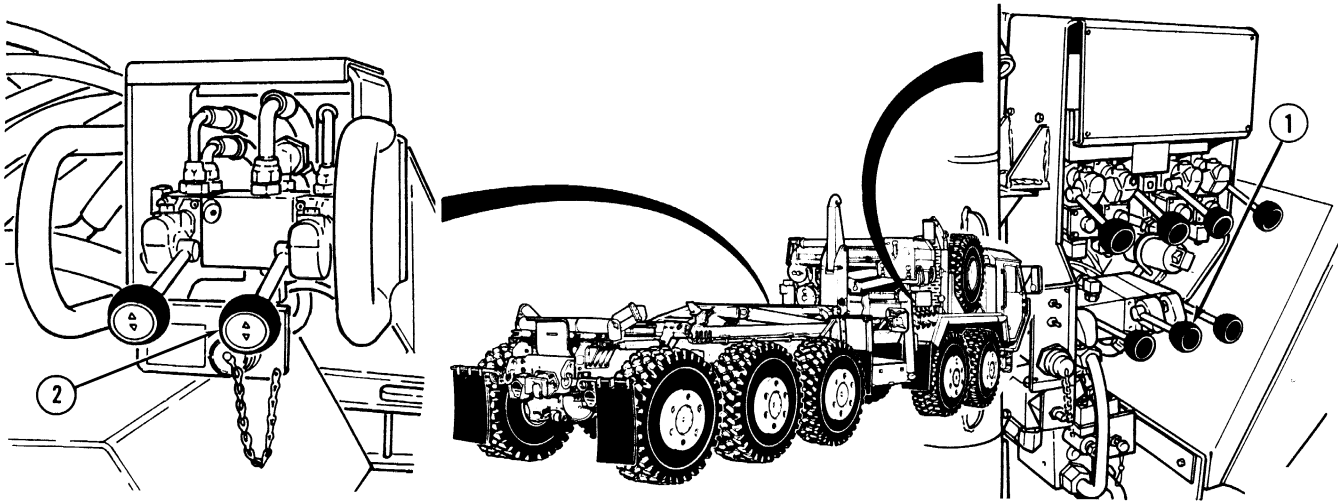

Figure 1-21. Fixed Controls
**b. Fixed Controls.** All crane controls and indicators (1, Figure 1-21) are located at the crane position on the passenger side of the truck. Controls (2) on the driver's side will also operate the outriggers. The controls are accessible to the operator while standing on the ground. Control valves, both crane and outrigger, automatically return to the neutral position should the operator inadvertently or intentionally release the control.